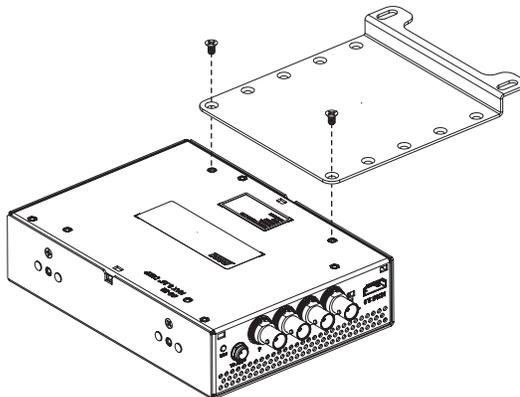
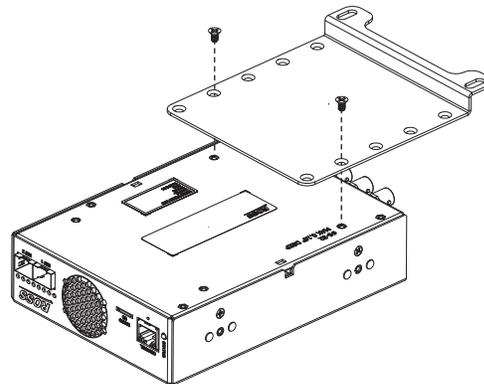

Figure 1 Bracket on the Long-side
Figure 2 Bracket on the Short-side
3. Use the provided screws to fasten the NEWT-VESA100 bracket to the NEWT-IPX chassis as required. **Figure 1** shows the bracket installed on the long-side of the chassis, while **Figure 2** shows the short-side position.
★ Your installation needs may differ from what **Figure 1** and **Figure 2** depict.